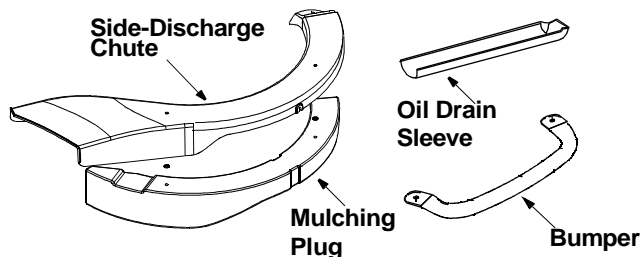

Figure 1
- Remove loose parts from the grass catcher and/or the crate very carefully. Compare with list and illustration (Figure 1) below.